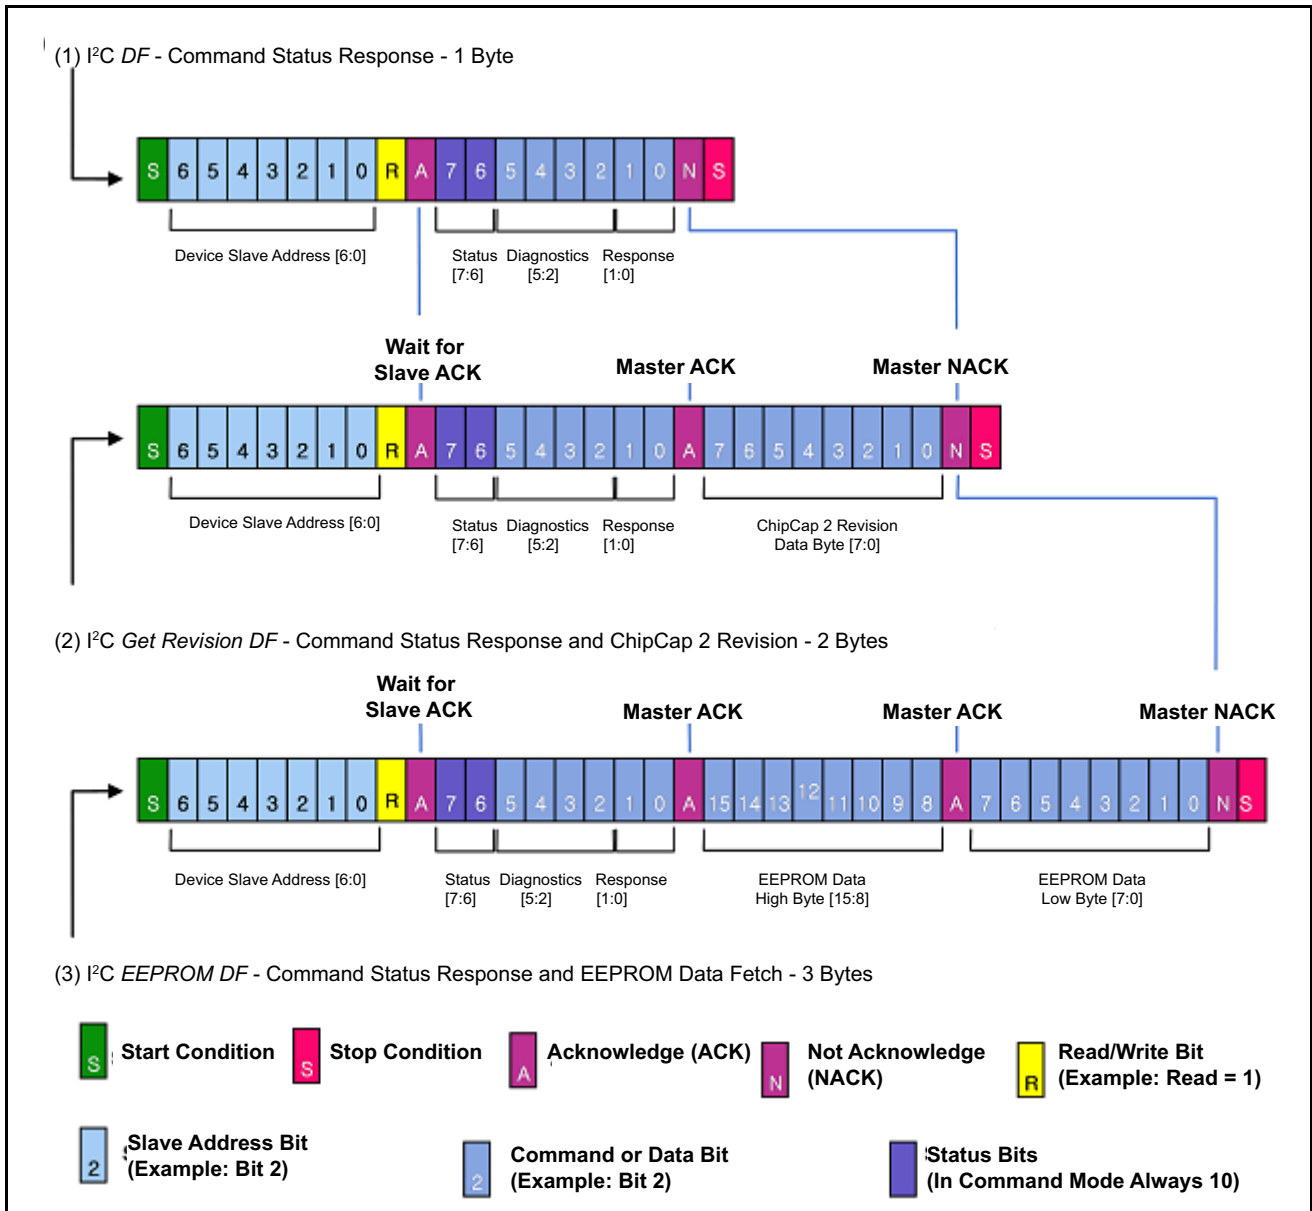

Figure 19: Command Mode Data Fetch
After a command has been sent and the execution time defined in Table 11 has expired, an I²C Data Fetch (DF) can be performed to fetch the response. As shown in Figure 19 on page 30, after the slave address has been sent, the first byte fetched is the response byte.
For all commands except EEPROM Read and Get Revision, the data fetch should be terminated after the response byte is read. If the command was a Get Revision, then the user will fetch a one byte Revision as shown in Figure 19 on page 30, example 2.
The revision is coded with the upper nibble being the letter corresponding to a full layer change and the lower nibble being the metal change number, for example A0. If the command was an EEPROM Read, then the user will fetch two more bytes as shown in Figure 19 on page 30, example 3.
If a Corrected EEPROM Error diagnostic was flagged after an EEPROM read, the user has the option to write this data back to attempt to fix the error. Instead of polling to determine if a command has finished executing, the user can use the Ready pin. In this case, wait for the Ready pin to rise, which indicates that the command has executed. Then a data fetch can be performed to get the response and data (see Figure 19 on page 30).